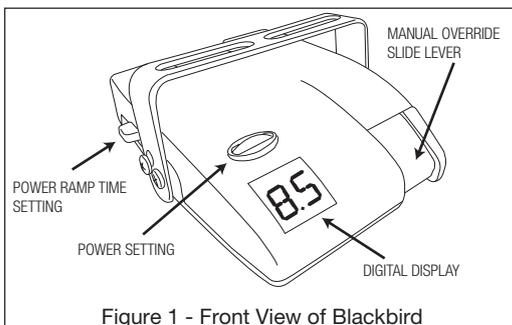

Figure 1 - Front View of Blackbird
The controller features the following options, selections and settings. Use illustration in Figure 1 to assist in adjustment of settings. For technical assistance with setup or operation, call toll free: 800-892-2676.
- The **“Manual Slide Lever”** (Figure 1) is located on the front right side of the Controller.
- Disconnect the tow vehicle/trailer electrical connector. Move the manual override slide lever (Figure 1) to the left. The display should show (1) Dot and the tow vehicle stop lamps must illuminate.
- If the display flashes OC, or showing (1) Dot check and repair blue wire connections and brake coil connections. The Controller does not see a brake coil connection.